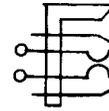

Fig. 11—387A or B Plug
2.11 **387A and B:** The 387A and B (Fig. 11) are test plugs equipped with a sleeve and spring, and are used with the 444-type jacks in Main Distributing Frames (MDF) of Common Systems.